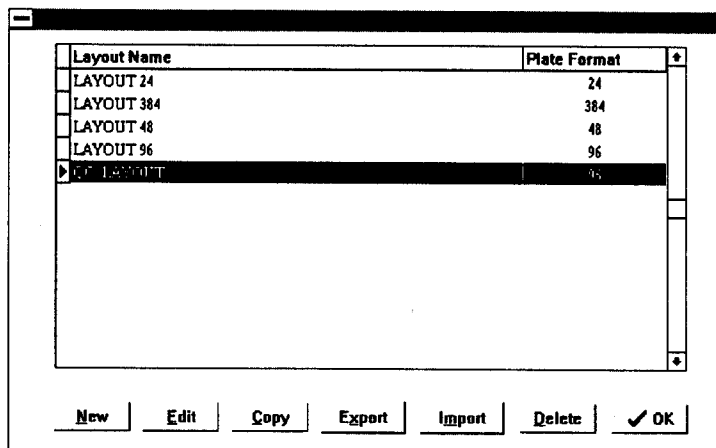

Fig. 5.10. List of all defined layouts.
The layouts screen (Figure 5.10) lists all previously defined and stored layouts.
- OK** Saves all modifications and returns to Figure 5.10 (layouts)
- Cancel** Returns to Figure 5.10 without saving